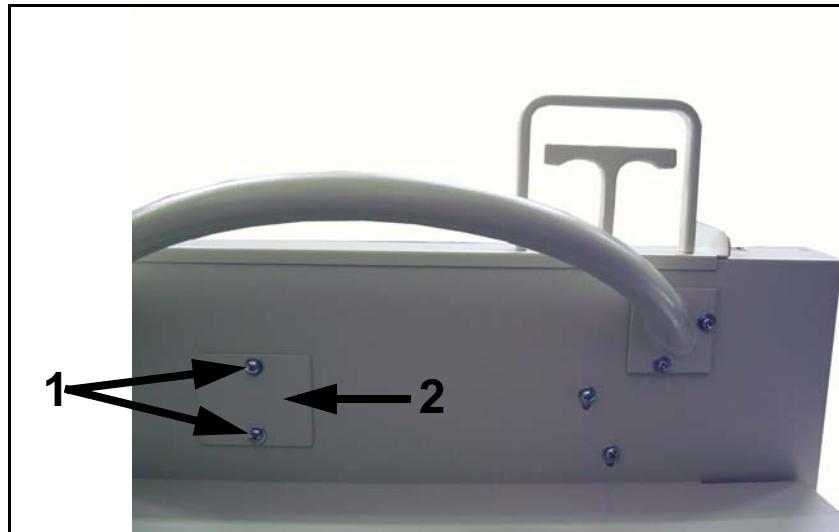

Figure 5-17. Cover Screws
- 27 Unscrew cover screws (1 in Figure 5-17) and remove cover (2).